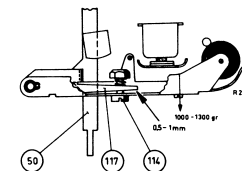

Fig 24
- A space of 0.5 - 1 mm, should be left between the control bracket 117 of the pressure roller lever and the pressure roller lever itself. See fig. 24. This can be adjusted if necessary by bending the vertical lip of control bracket 117 which falls into the hollow of start strip 50.
- The pressure roller should be pressed with a force of 1000 - 1300 grammes against the capstan. See fig. 24. This is ensured by pressure spring 118. If necessary adjust this spring by means of screw 114.